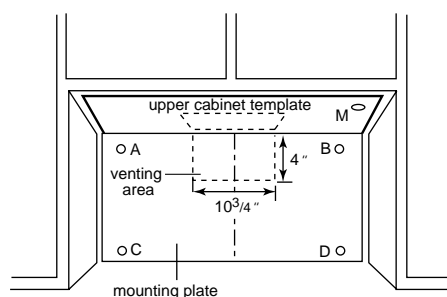

Figure 18
4. Using the mounting plate, mark the position for attaching it on the wall with pencil. If you want wall vented installation, mark the position of ventilation rectangular hole (10 3/4" X 4") on the wall too. See Figure 18.
5. Measure the bottom of the upper cabinet frame. Trim the edges power supply cord hole on the upper cabinet template so that the template will fit on the bottom of the upper cabinet. If upper cabinet has a recessed frame, trim the template so it fits inside the recessed area. Align the centerline of the upper cabinet template with the centerline of the wall template, then securely tape or tack the upper cabinet template in place. See Figure 18.
- **WALL-VENTED:** cut out the marked area on the wall. See Figure 18.